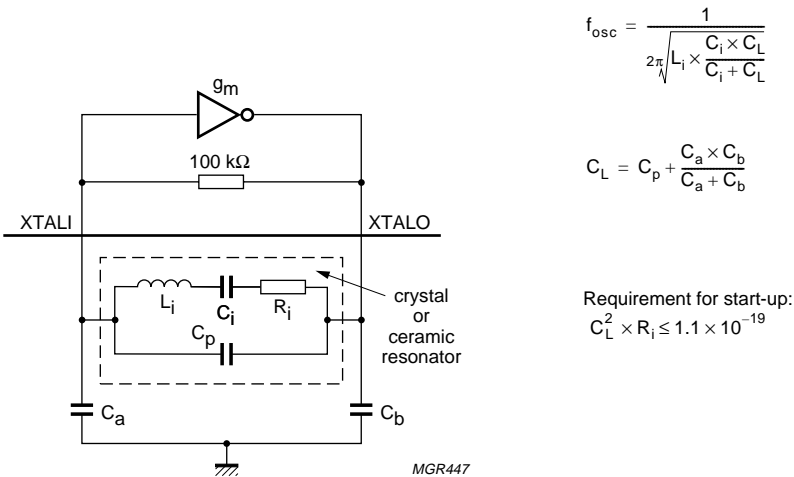

Fig.3 Simplified diagram of crystal oscillator.
28. The simplified circuit diagram of the oscillator is given in Fig.3. To ensure that the oscillator will start-up, the ceramic resonator must fulfil the following condition:  $C_L^2 \times R_i \leq 1.1 \times 10^{-19}$ .